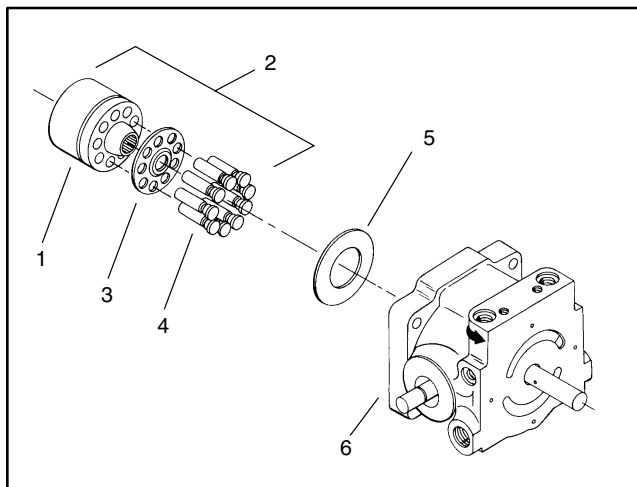

Figure 51
7. Lubricate thrust plate with clean hydraulic fluid. Make sure contact surface for the piston shoes is facing up (Fig. 51).
8. Lubricate cylinder block, spider, and piston assemblies with clean hydraulic oil. Insert piston assemblies through the spider and into the bores. Make sure spider and spider pivot contact surfaces align properly (Fig. 51).
9. Position variable housing in a horizontal position. Slide cylinder block assembly over the shaft engaging splines. Make sure pistons and thrust plate remain in place (Fig. 51).
10. Press needle bearing into the end cap. Bearing must protrude 3/32 to 1/8 inch (2.38 to 3.18mm) from face (Fig. 51).
11. Lubricate exposed face of the cylinder block with clean hydraulic fluid (Fig. 51).